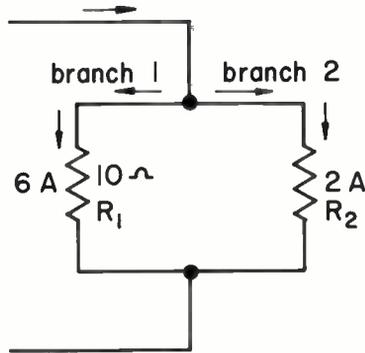

Fig. 7
1. A given circuit includes two parallel branches, as shown in Fig. 7. The current through each branch is inversely proportional to the resistance of that branch. In branch 1 the resistance is 10 ohms and current flow is 6 A. If the current in branch 2 is 2 amps, find the resistance (R_2) of branch 2.